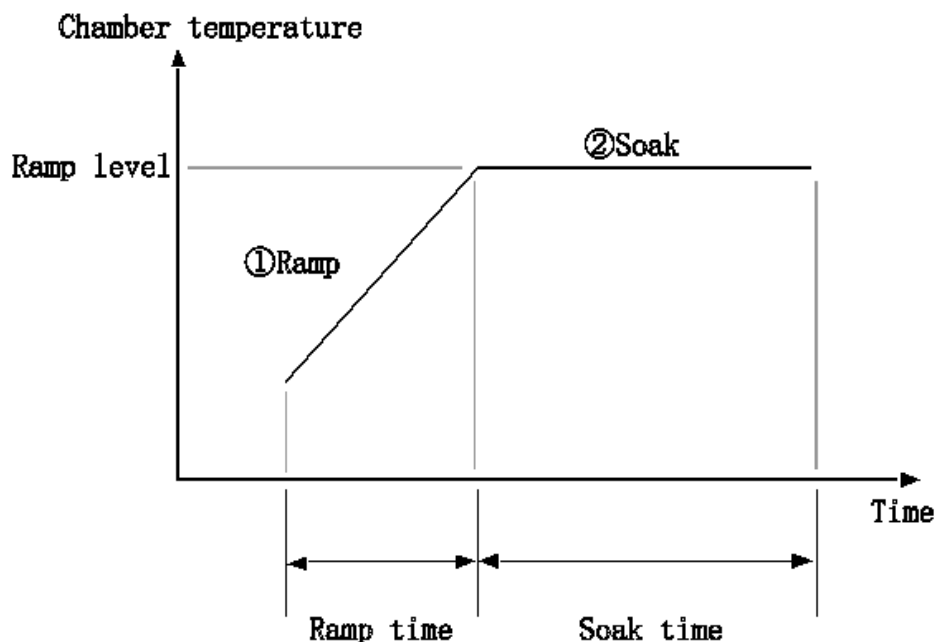

Fig. 2.1: Concept of A Segment
Fig 2.1 shows the concept of a segment. Temperature and time patterns of a segment are determined by the 3 basic parameters below.
In Section (① of Fig. 2.1~ temperature varies at a fixed gradient rate toward the desired temperature set as the ramp level. After reaching the ramp level, temperature is kept in Section ② of Fig 2.1 for the time preset as the soak time. These sections of ① and ② compose a segment.